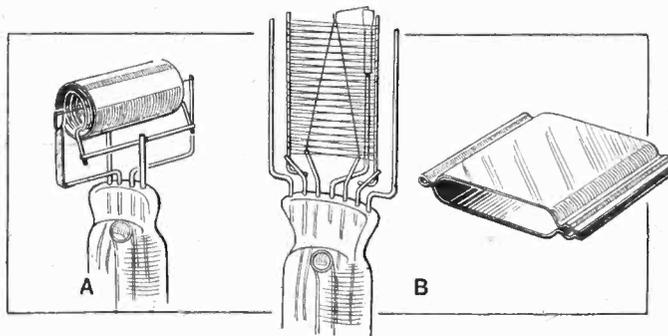

Fig. 1.—Simple types of three-electrode valve. (A) Straight filament and cylindrical anode. (B) V-type filament and flattened anode.
The simplest type of three-electrode valve is one in which a straight filament lies along the central axis of a cylindrical anode or "plate" (some of the earliest valves had flat anodes, hence the name "plate," which is still used to a large extent no matter what the shape of the anode might be). The grid consists of an open helix or spiral of wire surrounding the filament and also centrally arranged with respect to it. An arrangement of this description is shown in Fig. 1 (A). As the characteristics of a valve depend to a very large extent on the geometrical arrangement of the electrodes a great variety of designs is to be found among modern valves. For instance, one important class employs, instead of a single straight filament, an inverted "V" or an "M" shaped one enclosed by a flat-shaped anode and grid, an example being shown in Fig. 1 (B).
or an "M" shaped one enclosed by a flat-shaped anode and grid, an example being shown in Fig. 1 (B).